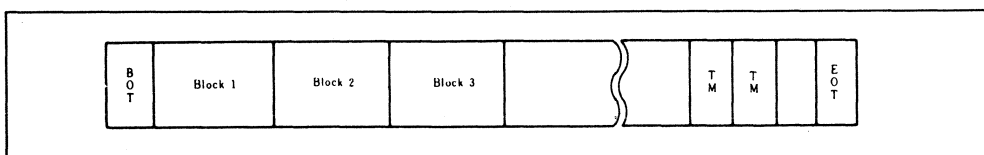

Figure 7-1 Magnetic Tape Format
The end of the file should be indicated by two successive tape marks (TM) (Figure 7-1).